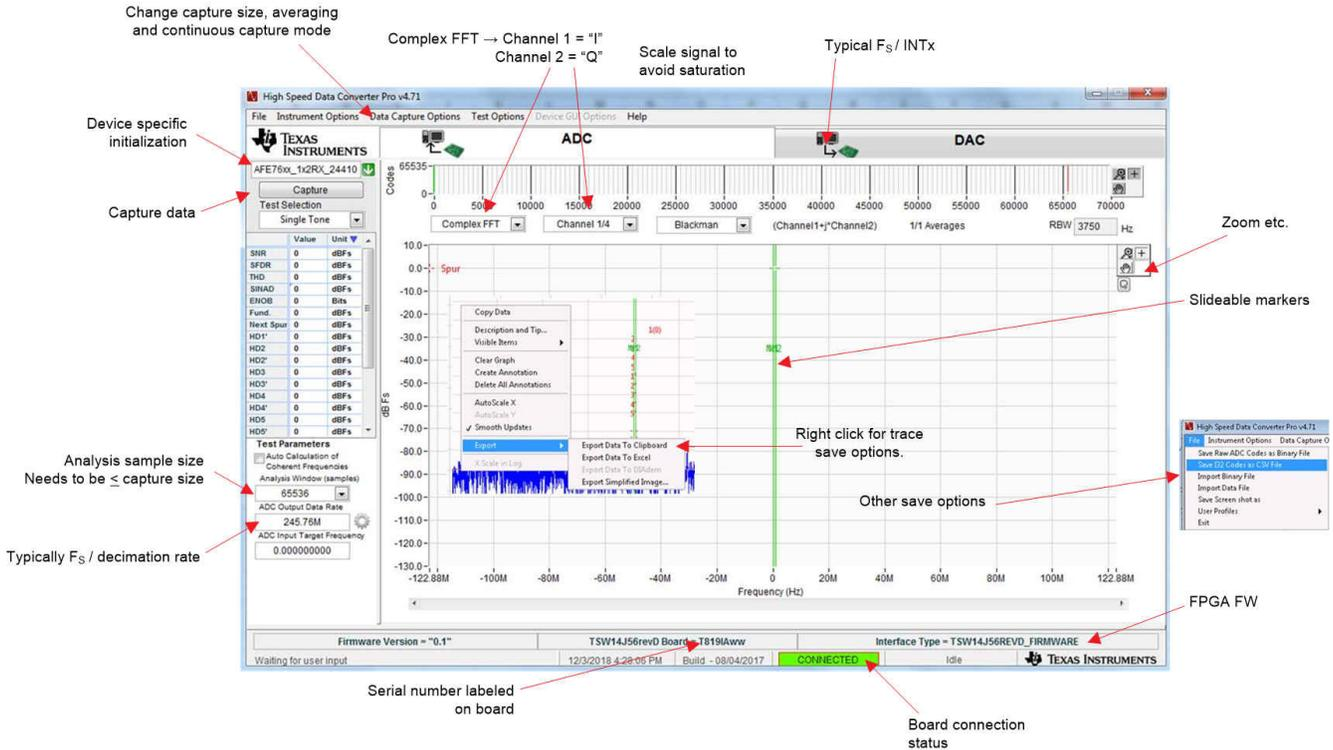

Figure 7-5. HSDC Pro ADC Tab Overview
1. Click on the HSDC Pro ADC tab. **Figure 7-5** shows a brief description of the ADC tab.